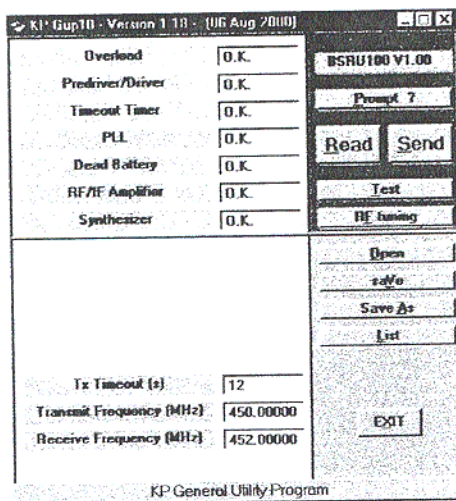

Figure 3: Gup10 Main Screen
1. Connect BSR100 to a PC using the RSINT001 adapter (see Figure 3).
- See Figure 3 for diagnostic results.